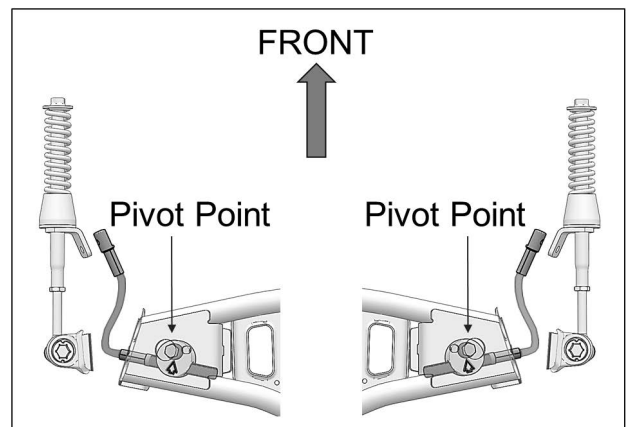

Fig. 29
15. Make sure aluminum disk pivot point is installed in front of steering limiter cable. See Fig. 29